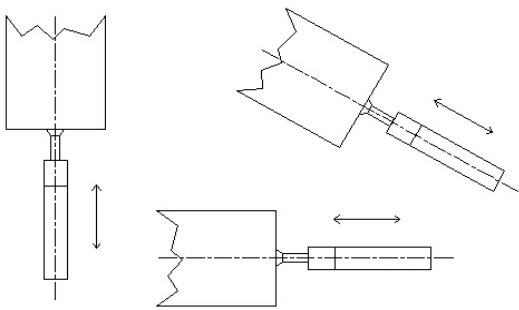

Fig. 2
2) During the measurement, the SENSING HEAD along the adapter has to be on a line with measuring object. ( ref. Fig. 2 )